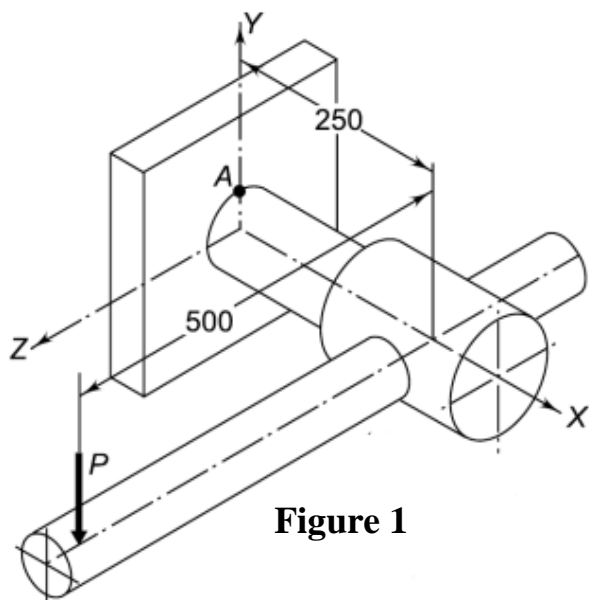

Figure 1
- 1A.** The shaft of an overhang crank subjected to a force P of 1 kN is shown in Figure 1. The shaft is made of plain carbon steel 45C8 and the tensile yield strength is 380 N/mm^2 . The factor of safety is 2. Determine the diameter of the shaft using the maximum shear stress theory. **(05)**